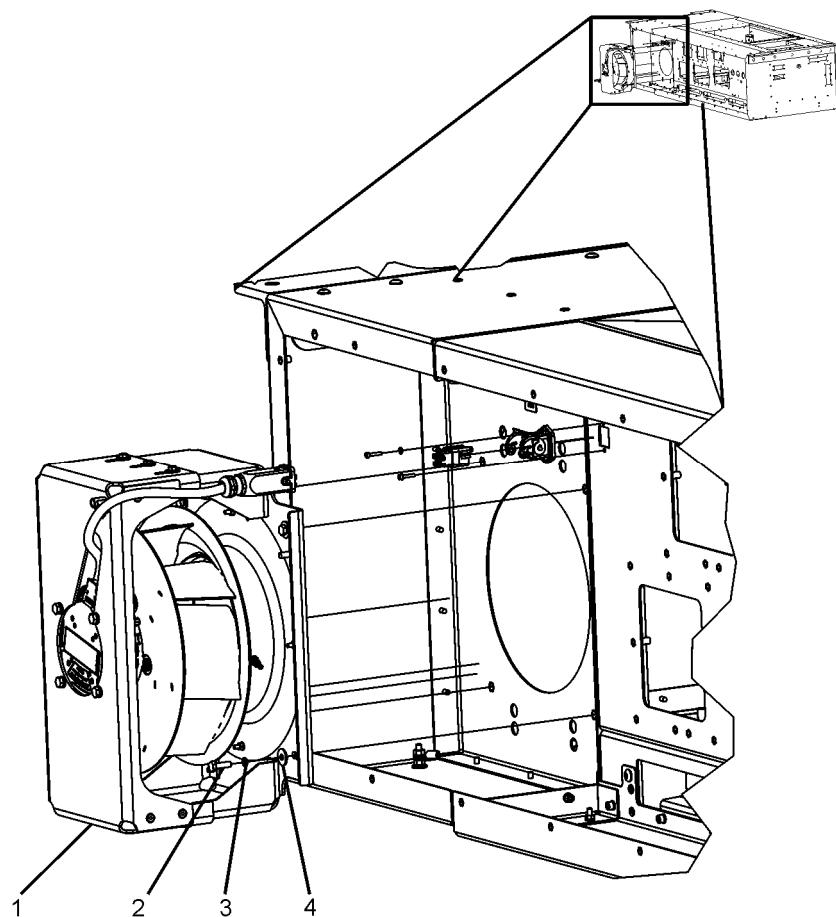

Figure 5-73: M901 Anchor Points
6. Detach M901 (see Figure 5-73). M901 (1) is mounted at four points and is held in place with M6x20 screw (2), M6 Schnorr washer (3) and M6 flat washer (4) sets. Remove the fasteners to detach the M901.
2. Insert M901 (see Figure 5-73). Lower the blower unit (M901) into the wet area of the converter and then align the unit with the four mounting points and move the blower assembly forward until the blower intake rests snug against the circular port at the bulkhead leading to the air filter and L101 area.
3. Attach M901 (see Figure 5-73). M901 (1) is mounted at four points and is held in place with M6x20 screw (2), M6 Schnorr washer (3) and M6 flat washer (4) sets. Affix the fasteners and tighten to 77 lb-in (8.8 Nm) of torque.